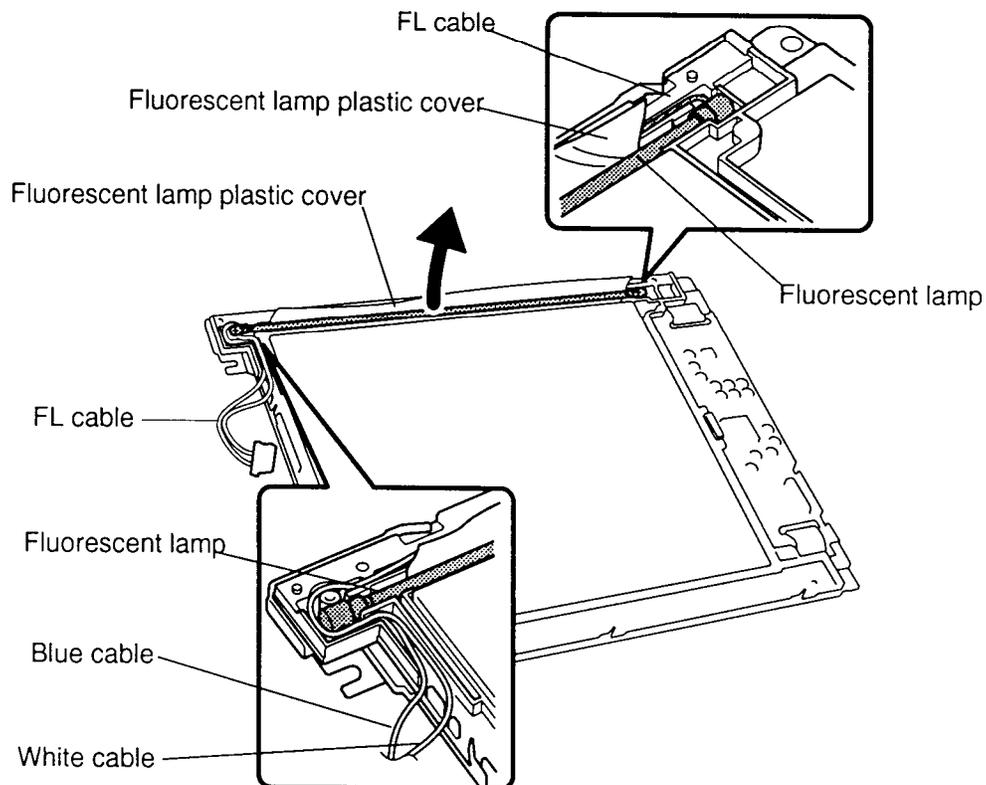

Figure 4-41 Removing the fluorescent lamp
5. Hold up the **plastic cover** shielding the **fluorescent lamp** and lift the **FL cable** to remove the **lamp** (figure 4-41). The cable is held secure in its groove by small tongues, so pry it out gently.
3. Route the **white** and **blue cables** as shown in figure 4-41. Make sure the cables are pressed down snugly so they will not be pinched by other components.